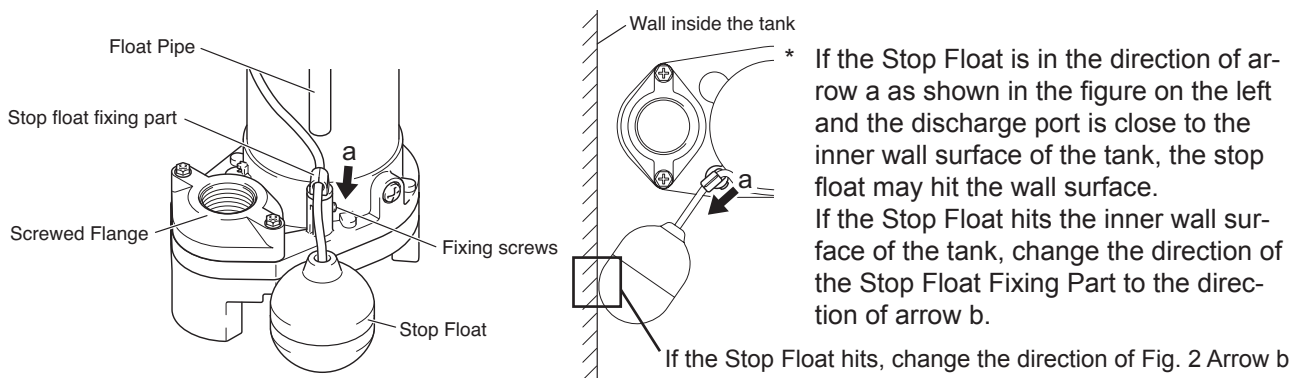

Fig 1 Standard (at the time of shipment)
The default factory setting is the direction of arrow a in Fig 1.
- (1) Remove the fixing screw and screw-in flange.
- (2) Change the Stop Float fixing part from the direction of arrow a in Fig. 1 to the direction of arrow b in Fig. 2, and fix it with the removed screw.
- * Please note that the mounting position of the fixing screw is different between the case of Fig. 1 arrow a and the case of Fig. 2 arrow b.
- (3) Install the screw-in flange.